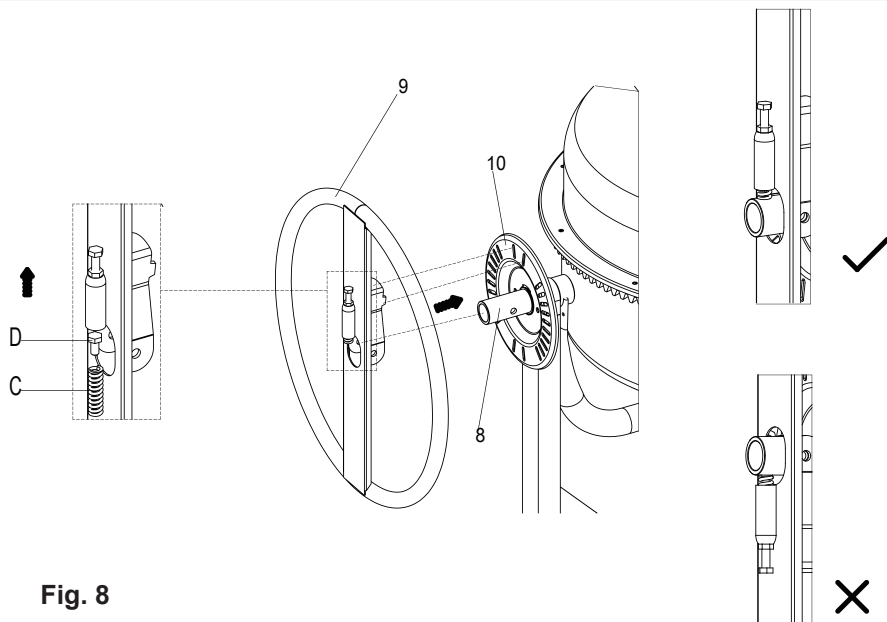

Fig. 8
1. Align and place the control handle (9) onto the drum arm (8). Ensure the wing (9d) are engaged in the grooves (10b) on the handle control plate (10) (Fig. 8)